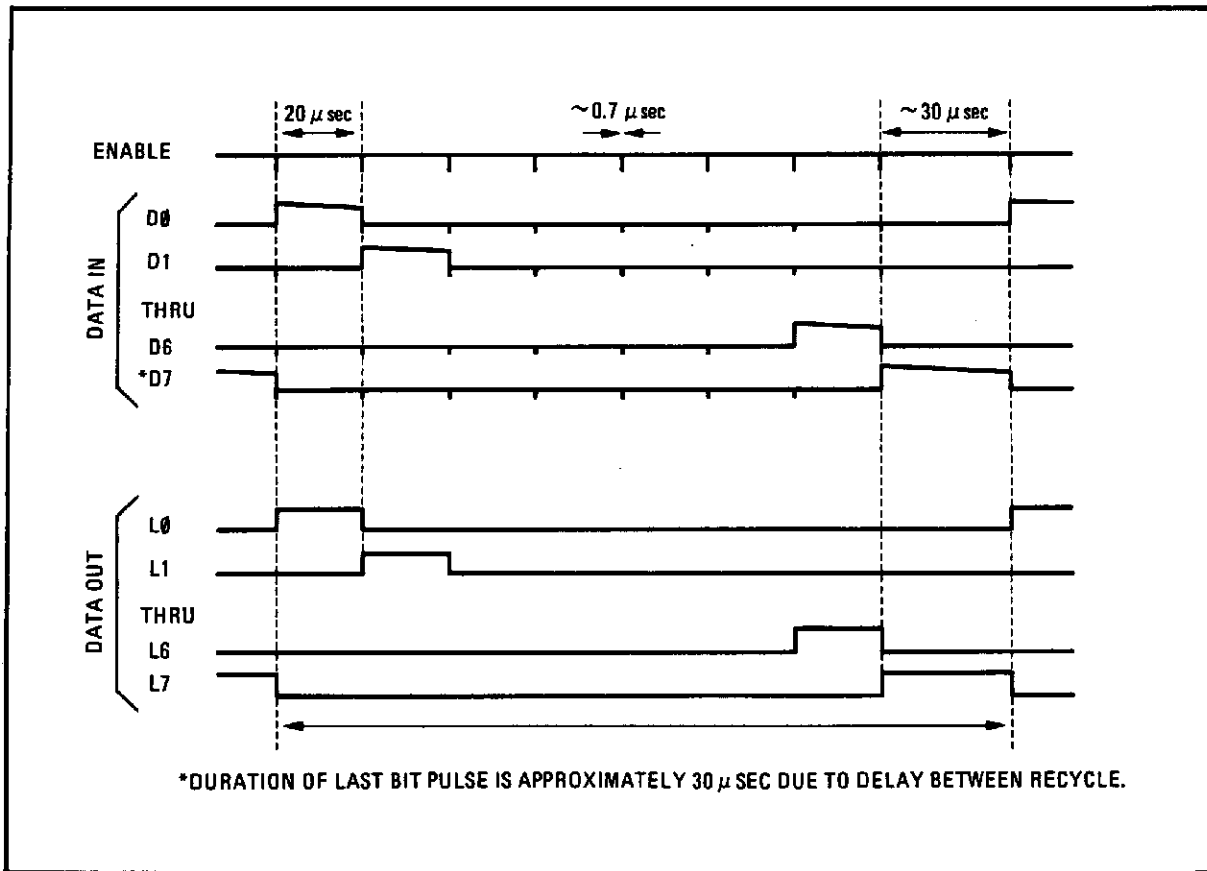

Figure 8-2. Hex Data Rotation Write — Bit Pattern
- HEX DATA ROTATION WRITE, [M4], strobes a '1' (high state) through a column of zeros (low states) to the addressed device. In effect, Hex Data Rotation Write is a rapid WRITE mode, exercising the addressed device in real time. The microprocessor inputs the data continuously, without servicing interrupts from the rest of the instrument. Latch enable lines, inputs, and outputs can be checked in this mode. Figure 8-2 illustrates the appropriate waveforms.